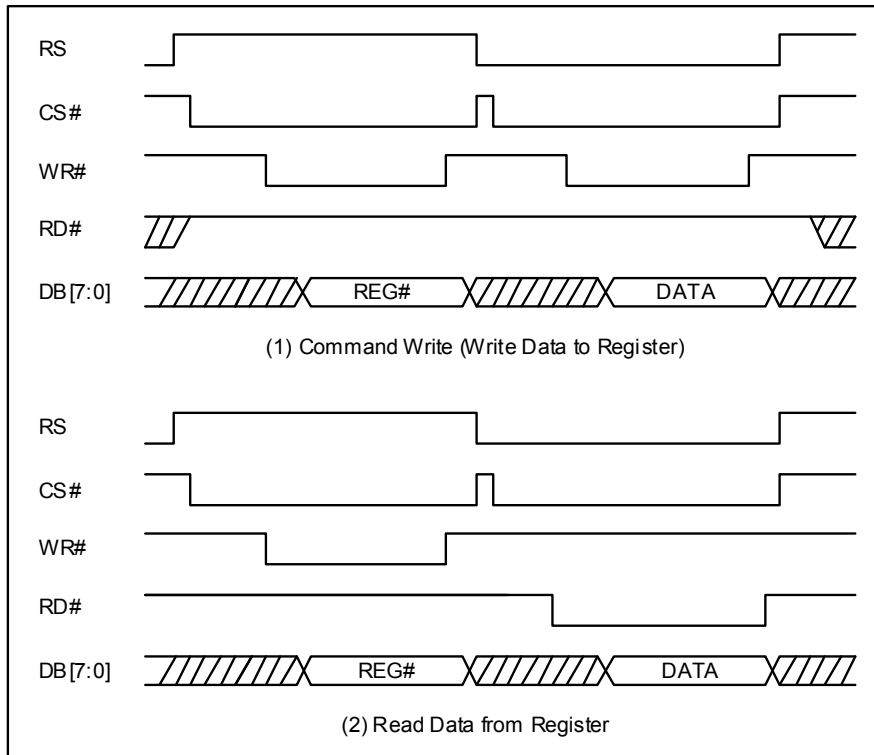

Figure 6-6 : Register Write/Register Read
RA8872 contains dozens of registers. If users want to write a command into the register of RA8872, they must execute the command write cycle first, i.e. the address of register, and then execute the data write cycle for storing a new data into the target register. So “Write Command” means that it will write a new data into the register. Please refer to the Figure 6-6 (1) for the related access timing.
If we want to read the register contents of RA8872, it has to execute the command write cycle first, and then the second access cycle must use “Data Read cycle”. Please refer to the Figure 6-6 (2). But please note that the Figure 6-6 is based on 8080 interface.